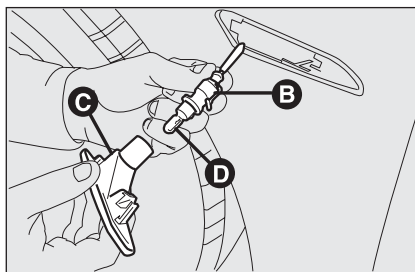

fig. 28
- ☐ turn the bulb holder **B-fig. 28** counterclockwise and remove it from lens **C**.